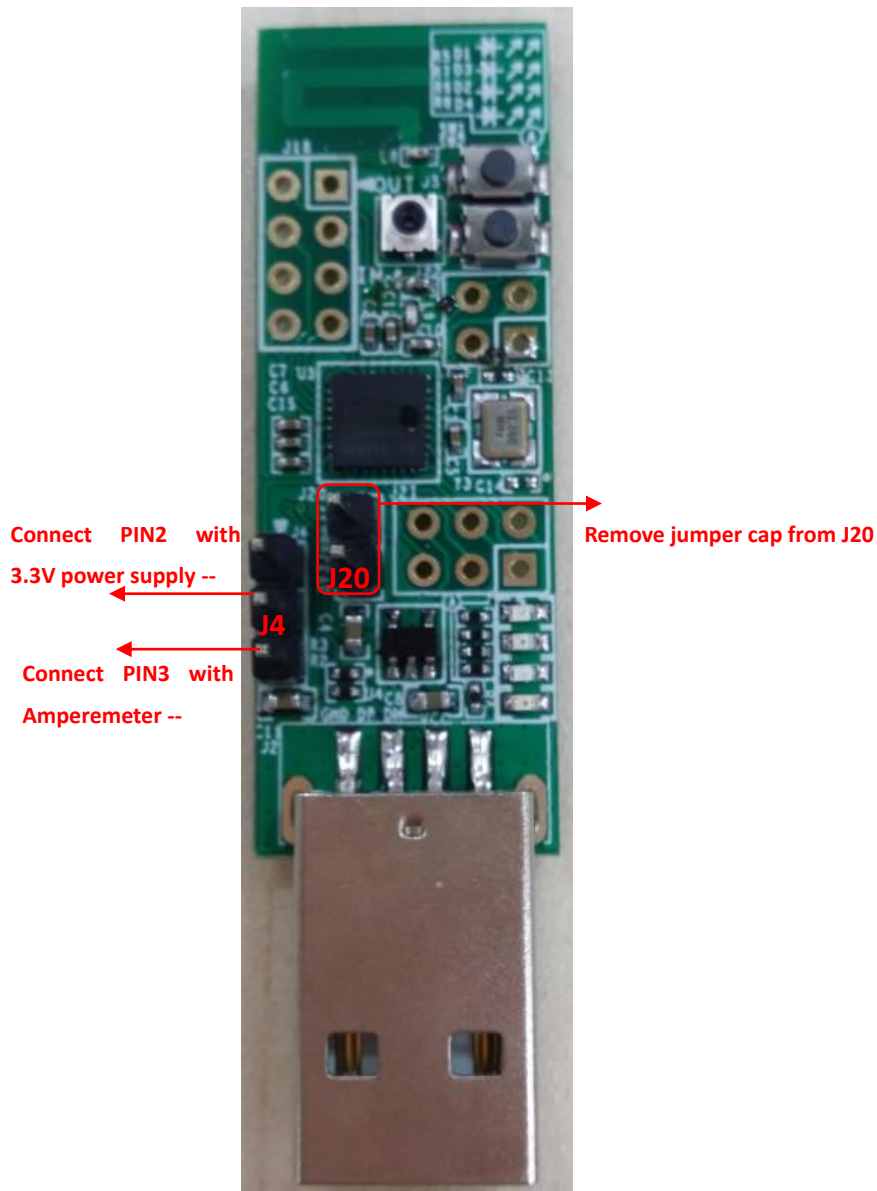

Figure 5 Connection chart to test sleep current
- 1) Remove jumper cap from J20 of 8267 dongle, as shown in Figure 5.